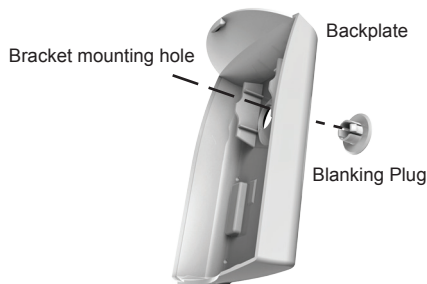

Figure 3. Prep for Wall Mounting (No Bracket)
2. **MOUNTING** - To mount directly onto a wall WITHOUT the swivel bracket, start by inserting the supplied blanking plug into bracket mounting hole. This is very important! See Figure 3. Next, locate the 9 dimple marks on the inside of the backplate. Choose 2 (or more) of these for use as the screw mounting holes. Drill out the necessary holes using 1/8" bit. To prevent air or contaminants from getting into the sensor, DO NOT leave any exposed or unused holes!